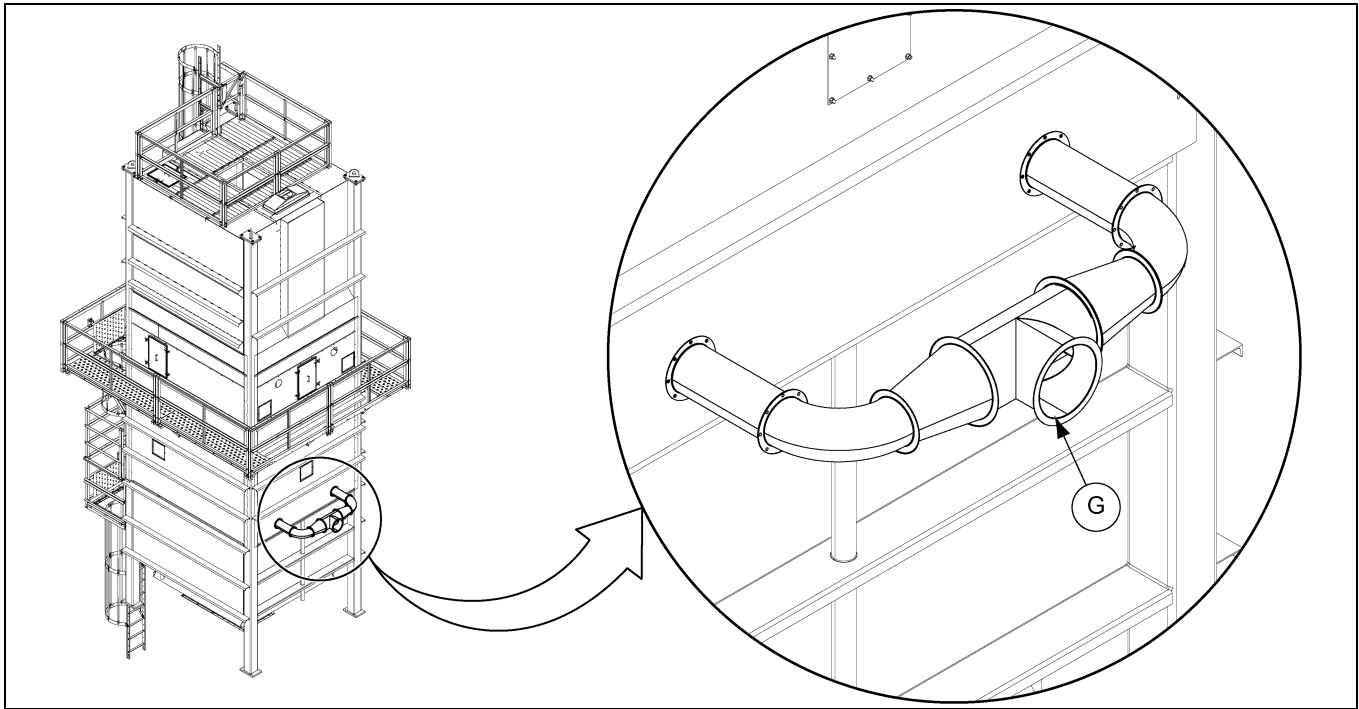

Figure 2L
1. Start with the lower garner connections (G). (See Figure 2L.)